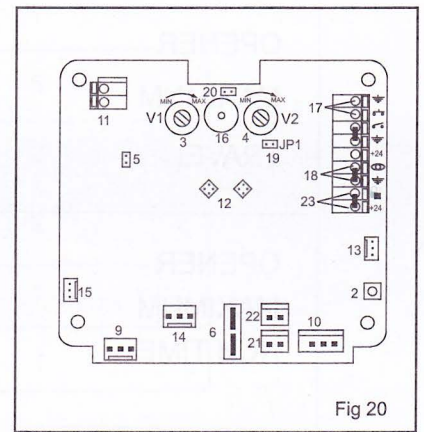

Fig 20
Removing the Shunt (5) in Fig 20 can activate the Auto Close Timer and the door will close automatically for about 60 seconds after it is fully opened.